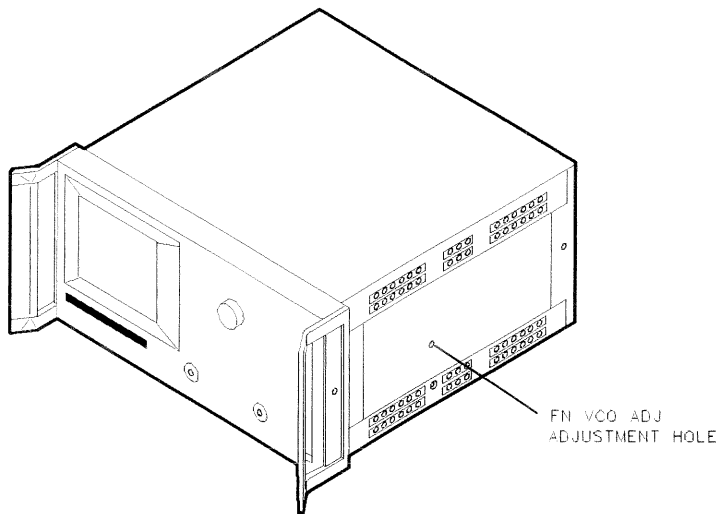
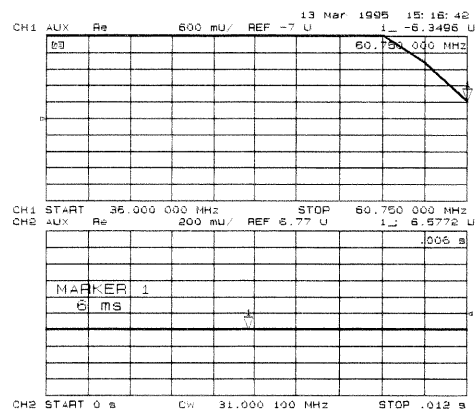

Figure 3-17. Location of the FN VCO TUNE Adjustment
Figure 3-18. Fractional-N Frequency Range Adjustment Display
7. Adjust the “FN VCO TUNE” (see Figure 3-17) with a non-metallic tool so that the channel 1 marker is as many divisions above the reference line as the channel 2 marker is below it. (See Figure 3-18.)